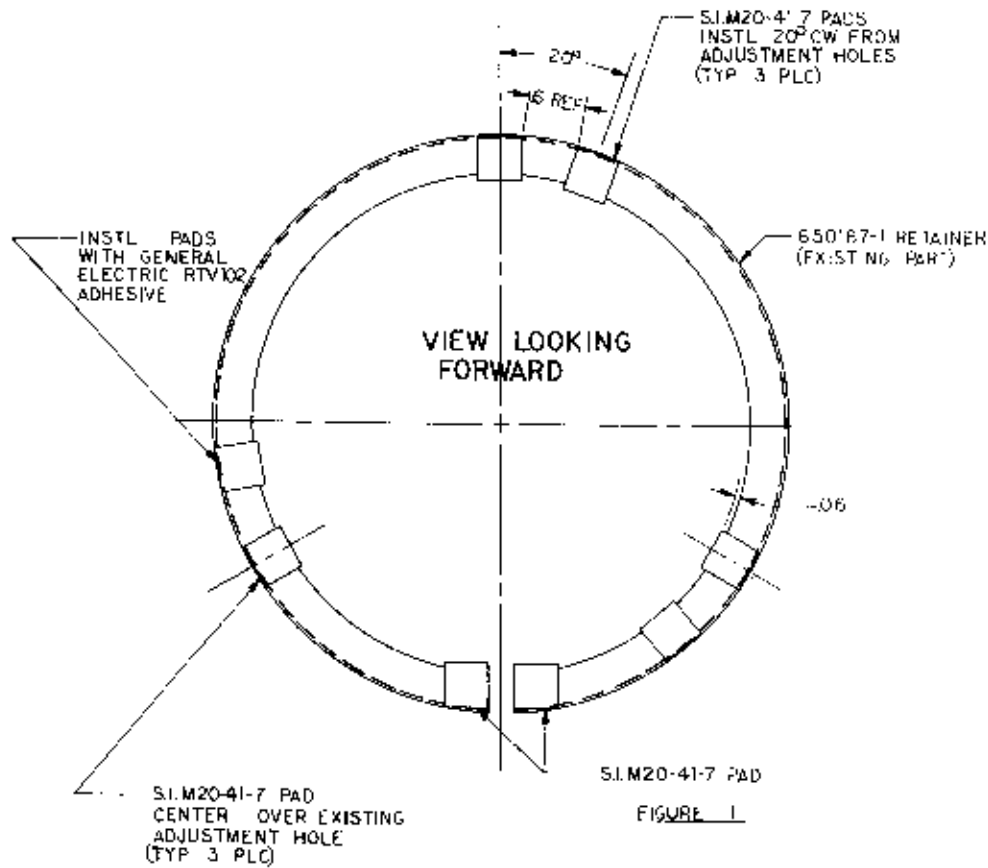

FIGURE 1
4. Install S. I. M20-41-7 pads (8 required) on 650187-1 landing light retainer. Per Figure 1.